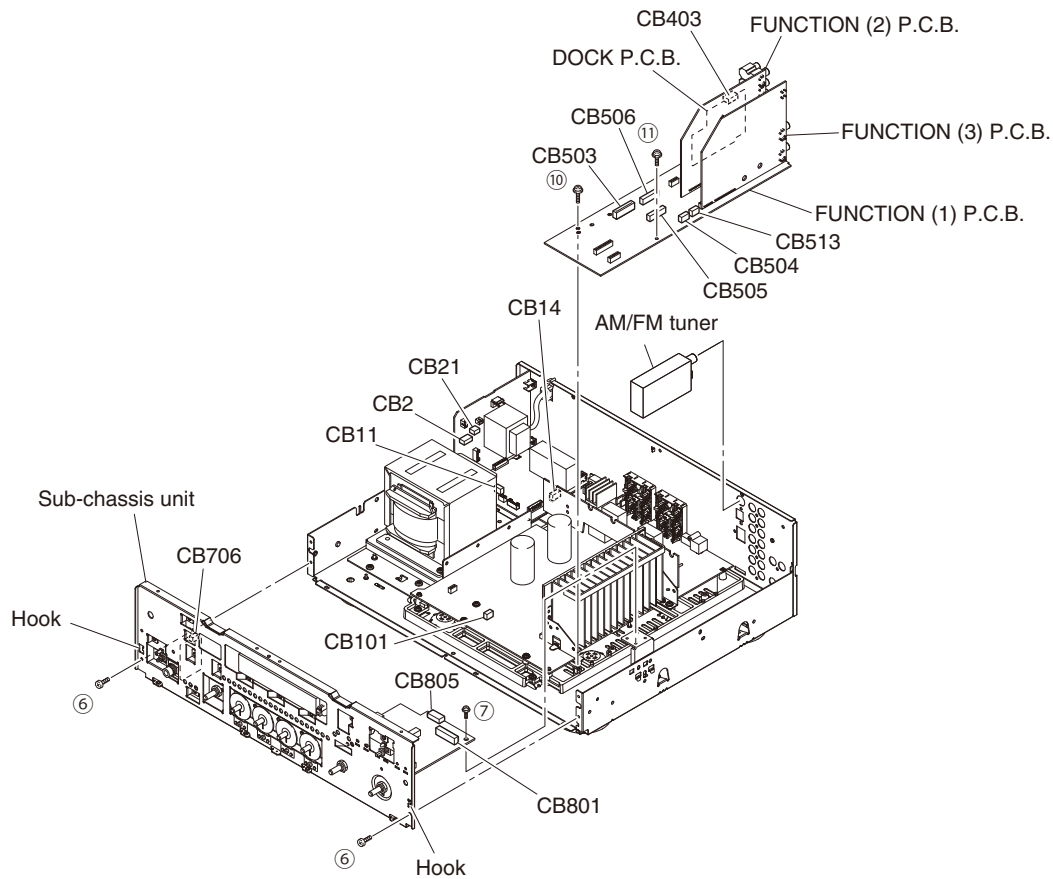
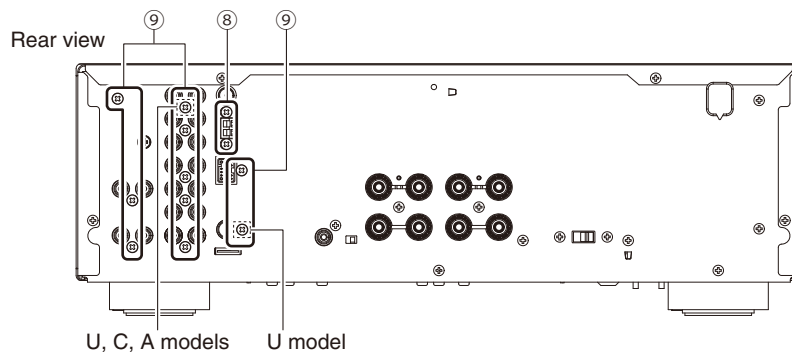

Fig. 2
Fig. 3
- a. Remove 2 screws (⑥) and screw (⑦). (Fig. 2)
- b. Remove CB11, CB101, CB503-505, CB513, CB706, CB801 and CB805. (Fig. 2)
- c. Release 2 hooks and then remove the sub-chassis unit. (Fig. 2)
- a. Remove 2 screws (⑧). (Fig. 3)
- b. Remove CB403. (Fig. 2)
- c. Remove the AM/FM tuner. (Fig. 2)
5. Removal of FUNCTION (1)-(3) and DOCK P.C.B.s
- a. Remove 10 screws (U model) / 9 screws (C, A models) / 8 screws (R, G, L models) (⑨). (Fig. 3)
- b. Remove screw (⑩) and screw (⑪). (Fig. 2)
- c. Remove CB2, CB14, CB21 and CB506. (Fig. 2)
- d. Remove the FUNCTION (1)-(3) P.C.B.s and DOCK P.C.B. together. (Fig. 2)